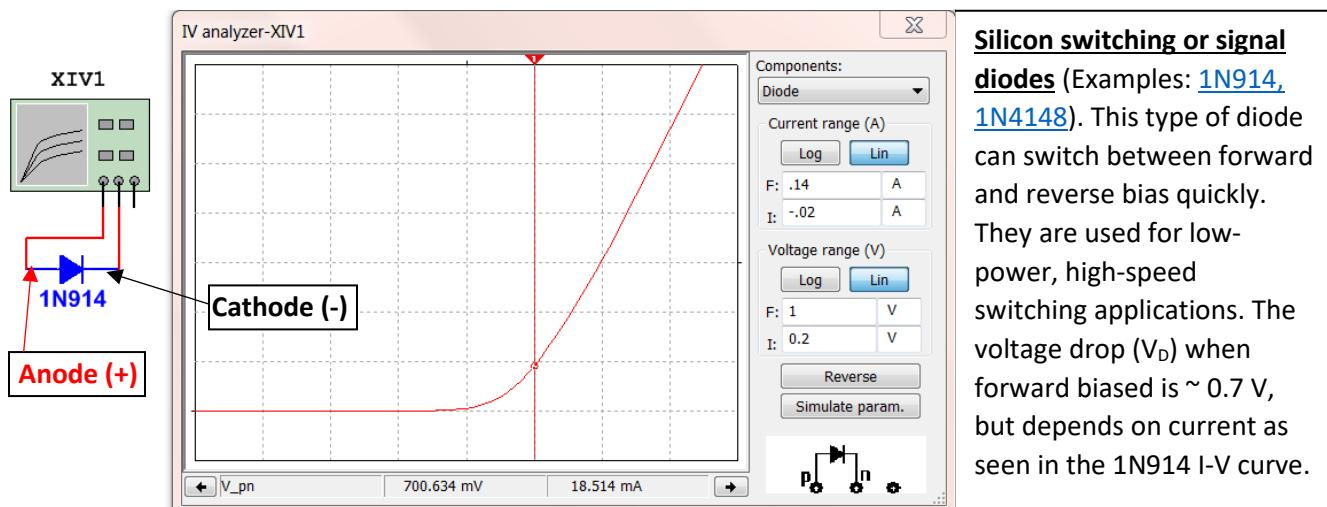

Figure 6.1: Characteristic Curve ( $I_D$  vs  $V_D$ ) of a 1N914 silicone switching diode (also called signal diode).
**Note:** There are some additional Diode example problems at the end of the Appendix. A diode is a device that acts like a current valve, where current is allowed to flow from anode to cathode, but not allowed to flow from cathode to anode (base of triangle). When current is allowed to flow the diode is said to be **forward biased** and when current is blocked it is **reverse biased**. There are many different types of diodes. The two main types discussed in this eBook are shown in Figures 6.1 (switching diodes) and 6.2 (rectifier diodes).
A few other types of diodes are discussed below. An  $I_D$  vs.  $V_D$  curve can be done for any diode using the Multisim I-V Analysis tool (as shown in Figures 6.1 and 6.2) if the voltage at a specific current is needed to be known.